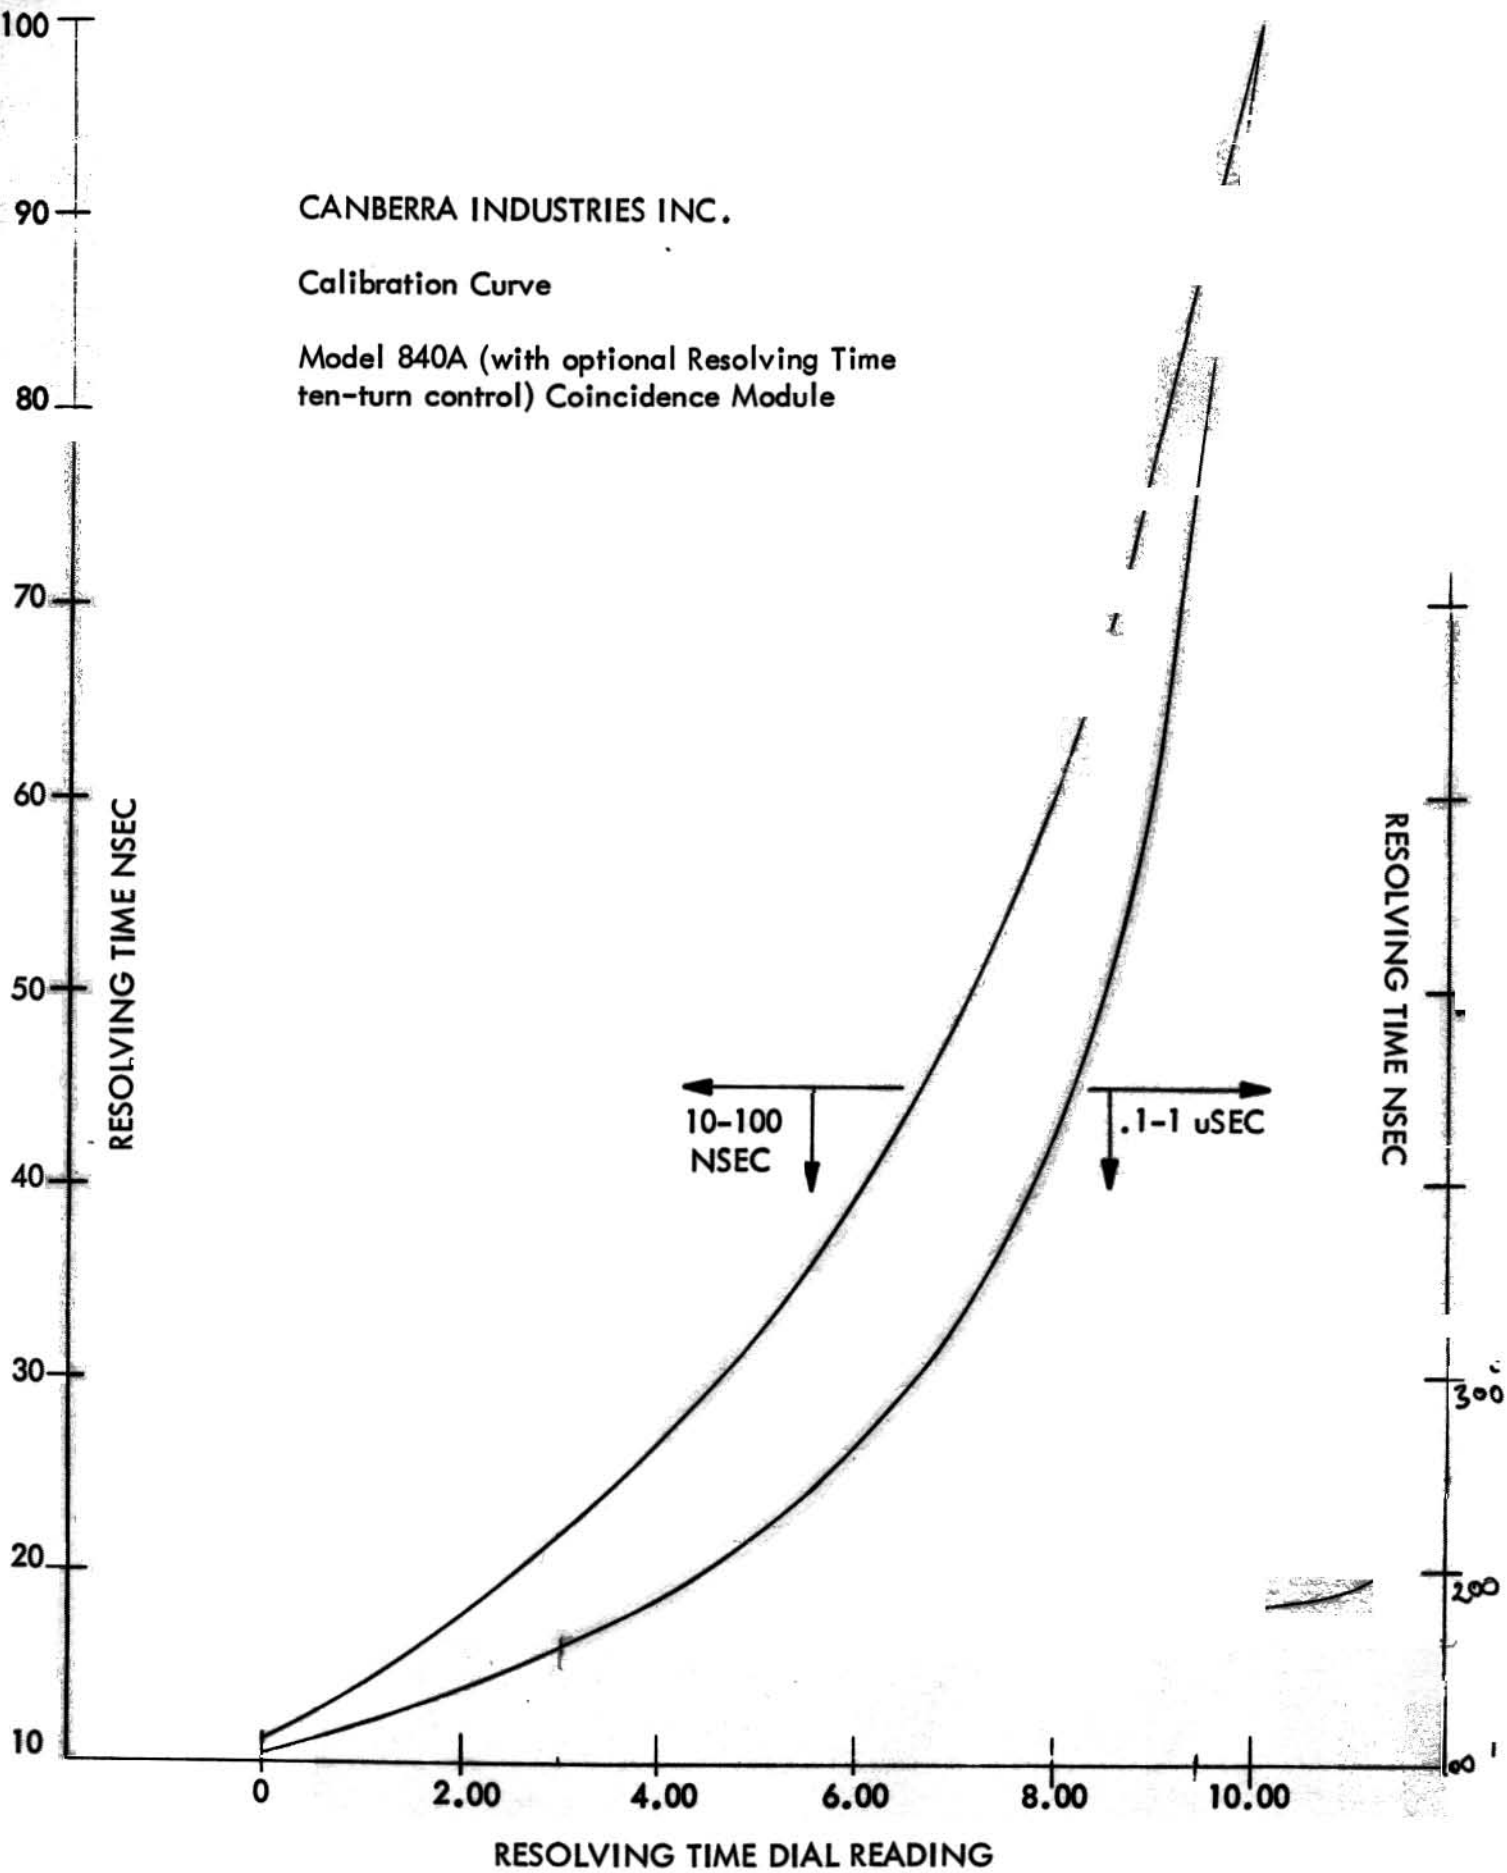

FIGURE 3-1 DIAL RESOLVING TIME VS. ACTUAL RESOLVING TIME
Linearity: see Figure 3-1.
5. Check that an output is generated when the input signals occur within the RESOLVING TIME set on the RESOLVING TIME control. Vary the delay and RESOLVING TIME controls and check them at different settings. Refer to Figure 3-1 for a typical linearity/accuracy curve of actual resolving time vs. indicated time.